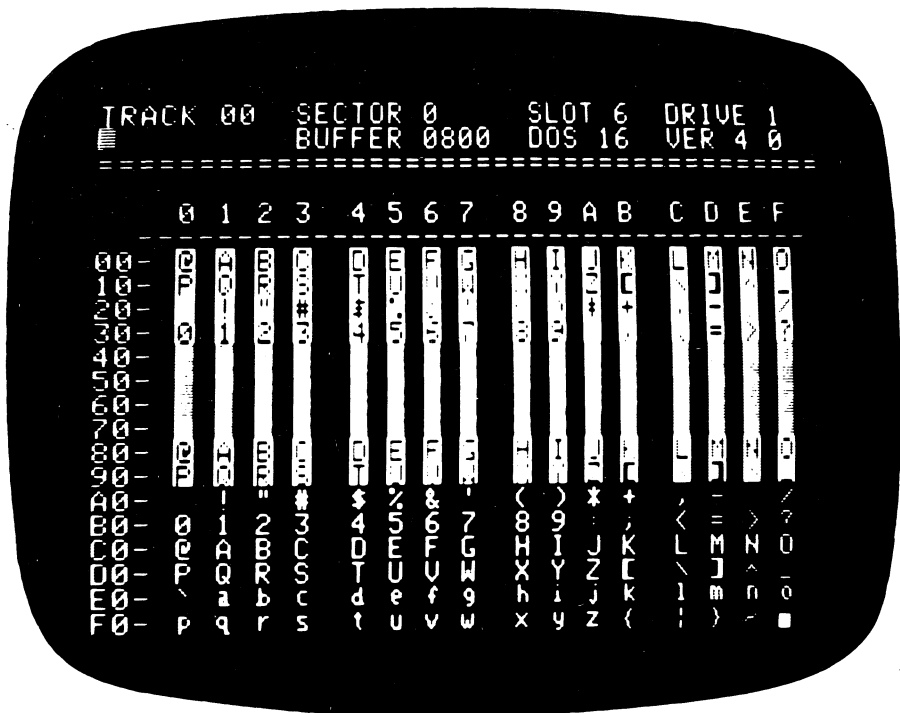

Figure 4. The buffer was filled with values \$00 through \$FF to show the displayed ASCII values for the utility.
After the utility is accessed, the screen will blank and the top 2 lines will display the utility status. Figure 4 is an example of the display after it is accessed and the 'A' key is pressed.
3. This utility displays all ASCII values as they should appear. The only exceptions to this are control characters which are displayed in inverse. Bytes \$00 through \$3F contain the full ASCII character set in inverse, and bytes \$40 through \$7F contain the ASCII set in flashing mode. Bytes \$80 through \$9F are the control characters but to avoid problems are displayed as inverse characters. Bytes \$A0 through \$DF are the normal ASCII characters and bytes \$E0 through \$FF are lower case. THE INSPECTOR supports lower case as shown in figure 4, but only when there is a lower case adapter installed in the APPLE.